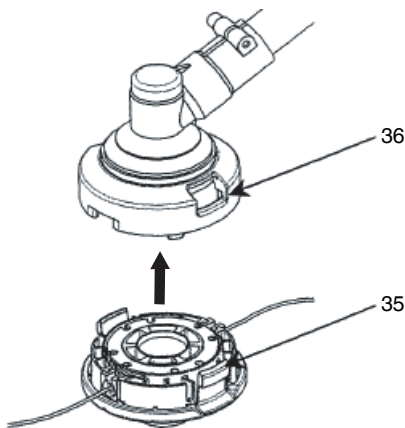

Fig. 41
- (6) Place the cover over the case so that the cap locking tabs (35) on the case meet the long holes (36) on the cover. Then push the case securely until it clicks into place. (Fig. 41)